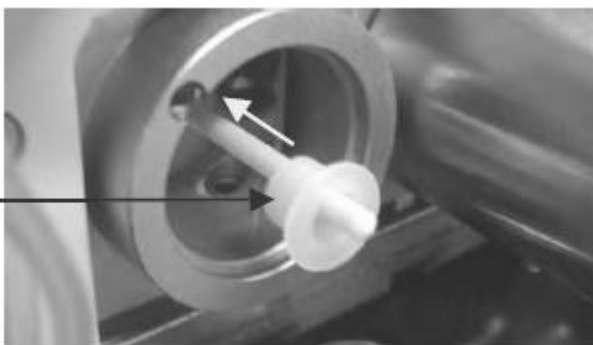

Figure 8. Correct orientation of the bushing with draining device.
- 8.7.5.7. Slide the bushing with the draining device onto the shaft. Ensure correct orientation of the bushing. See Figure 8.